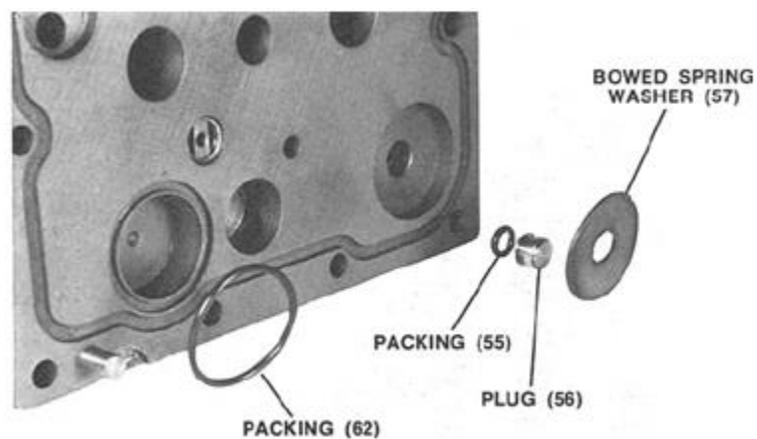

Figure 5-20. Base and Parts
17. Refer to Figure 5-20 and place packing (62) in base. Lubricate and put packing (55) on plug (56) and push into base. Put bowed spring washer (57) (concave side up) in place on top of plug (56) in base.